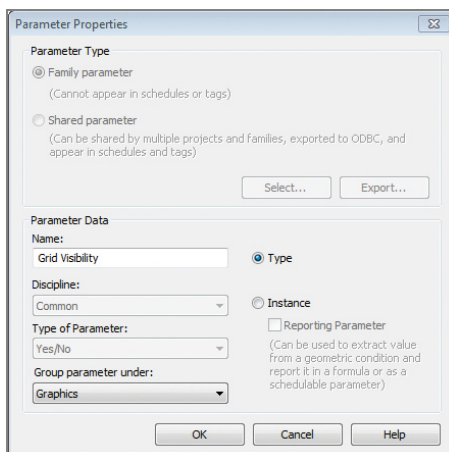

FIGURE 6.30 Creating a visibility parameter
7. Click Add Parameter to open the Parameter Properties dialog box. In the Name field, type **Grid Visibility**. Click the Type radio button, and set Group Parameter Under to **Graphics**, as shown in Figure 6.30.